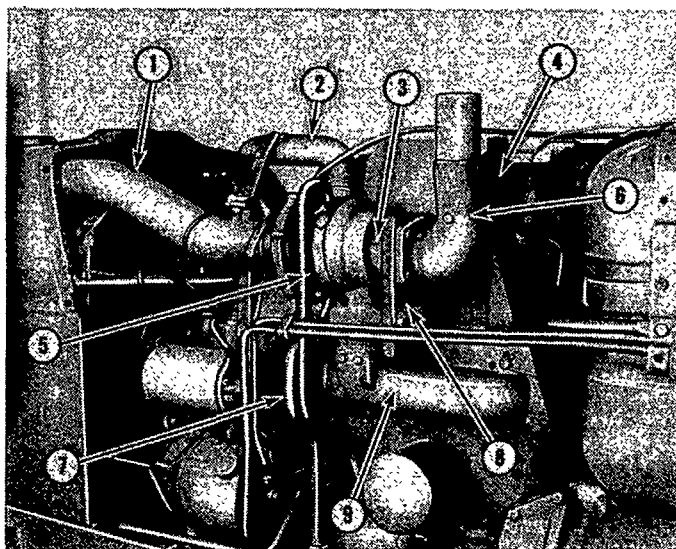

Figure 13
2. Position a new gasket and the turbocharger on the manifold, Figure 13, at the same time locating the oil return tube on the cylinder block adapter. Secure the turbocharger with the four nuts and lock washers and tighten the nuts to a torque of 30-35 lbs. ft. (4.15-4.84 kgm).
7. Connect the turbocharger-to-intake manifold tube as shown in Figure 13, and secure it with the clamps.